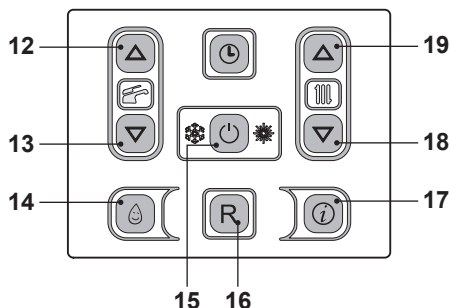
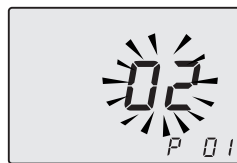

Fig. 8.22
Fig. 8.23
- Enter the "programming mode" by sequentially pressing keys 15 - 18 - 19 (Fig. 8.22) for 10 seconds at the same time until the letters **P01** on the LCD display, indicating that "parameter 01" (Fig. 8.23) has been activated.
- By pressing key 15 (Fig. 8.22) confirmation of the inserted value is obtained.
- Press keys 18 or 19 (Fig. 8.22) to exit without changing the value.